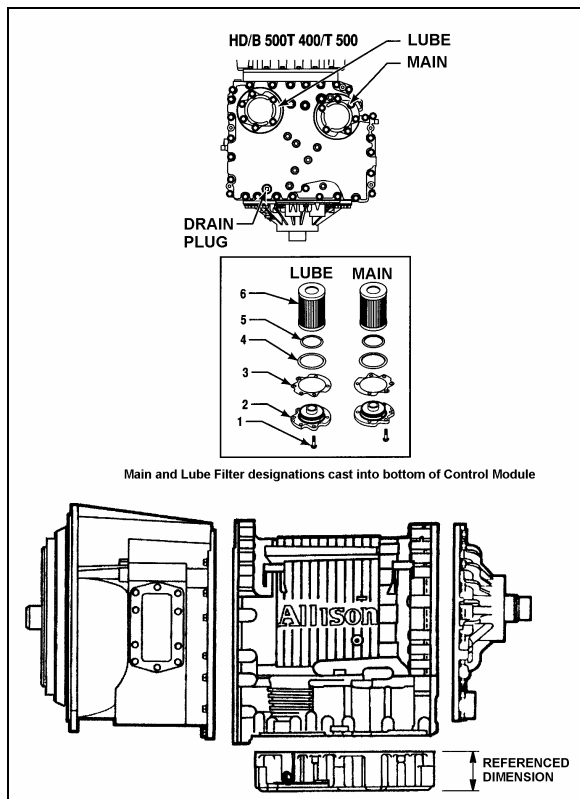

FIGURE 7: DRAIN PLUG AND FILTERS
2. Remove the drain plug from under the transmission (Fig. 7) and allow the oil to drain into a suitable container. Check the condition of the oil as described previously.
3. To replace the integral filters, remove twelve bolts (6 on each cover), two filter covers, two O-rings, two square cut seals and the two filters from the bottom of the control module (Fig. 7).